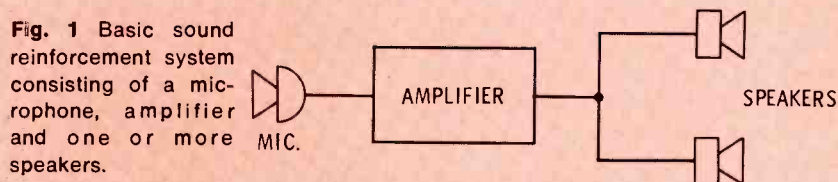
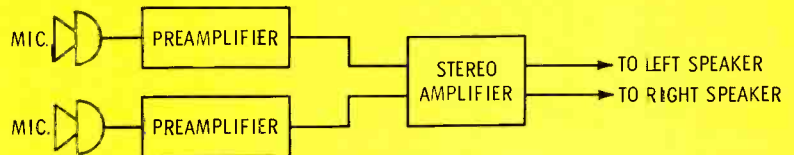

Fig. 1 Basic sound reinforcement system consisting of a microphone, amplifier and one or more speakers.
Fig. 4 Stereophonic public address system utilizes two independent sound channels.
The simplest public address (PA) system consists of a microphone, amplifier and one or more speakers, as illustrated in Fig. 1. If the mike and speakers are in the same room, it is a **sound reinforcement system**. When the amplified sound is delivered to other rooms, as shown in Fig. 2, it is a **paging or sound distribution system**. When there are two or more input signal sources, and sound is distributed on a controlled basis into various rooms, as shown in Fig. 3, it is a **central sound system**. And when two independent sound channels are provided (Fig. 4), with both channels reproduced in the same room, it is a **stereo public address system**.